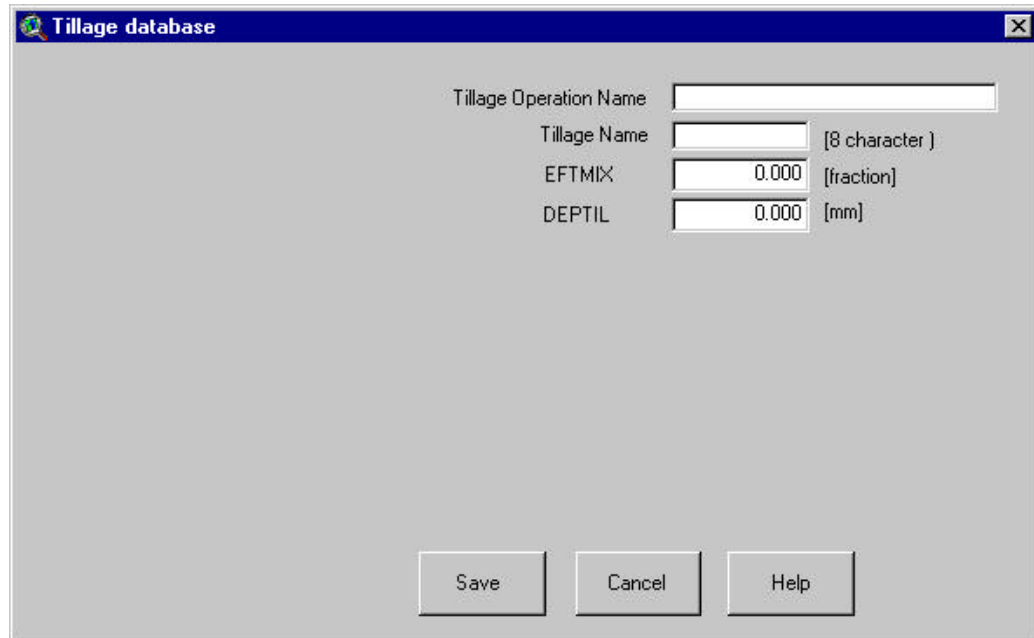

Figure 14.66
- b. A modified dialog box will appear which contains input fields for the tillage data (Figure 14.66).